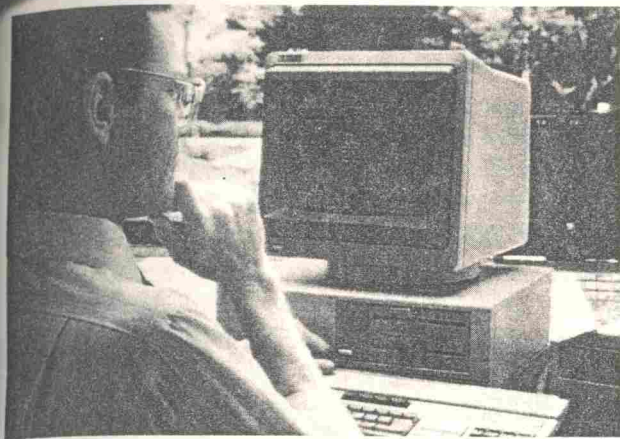

FIGURE 75-4 The microcomputer generally contains only one chip and is designed for simple applications. (Courtesy Hewlett-Packard Company.)
- The *microcomputer* (Fig. 75-4) generally has one chip (a microprocessor) that contains at least the arithmetic-logic and control-logic functions of the central processing unit (CPU). The microprocessor is usually designed for simple applications and must be accompanied by other electronic devices, on a printed circuit board, for more complex applications.